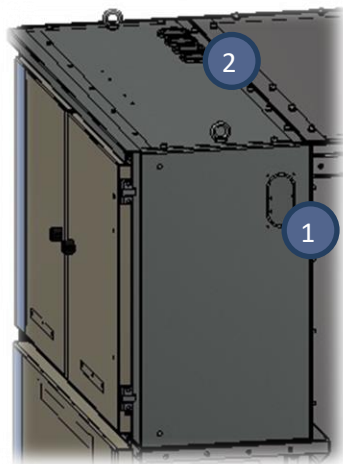

Fig.7.7. Low voltage compartment openings
- The interpanel wiring is done through the openings provided in the sidewalls of the low voltage compartment. Refer to Fig.7.7, item 1.
- External control cables (DC distribution board or SCADA) are usually laid into the panel through the openings provided in the top of the low voltage compartment (or from the bottom on special request). Refer to Fig.7.7, item 2.